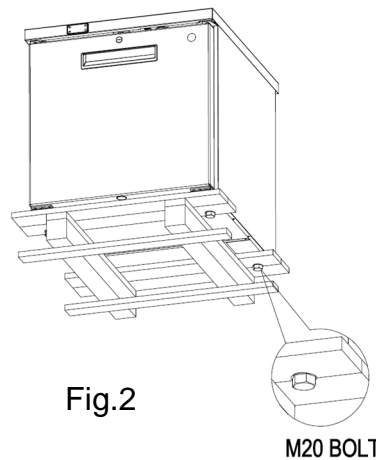

Fig.2
- Remove the two M20 bolts from the bottom of the unit (see Fig 2)